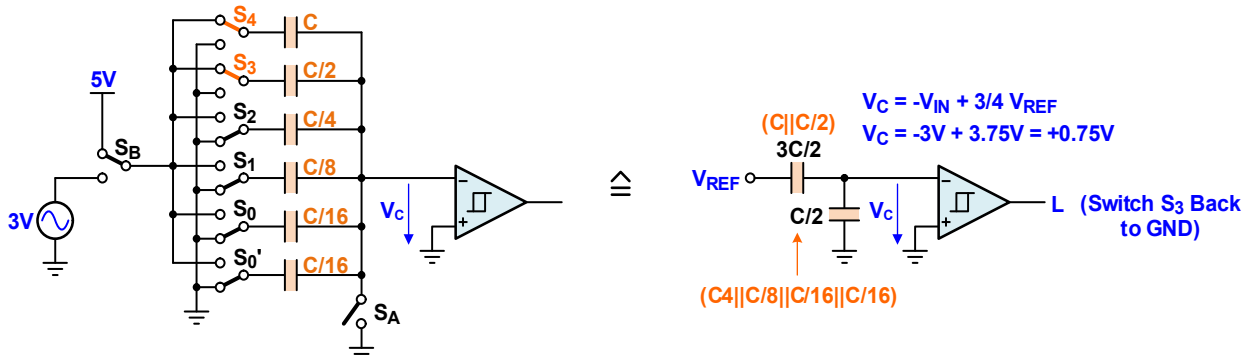

Figure 8. Bit-3: Because  $V_O = L$ , Bit 3 = 0. Therefore,  $S_3$  Must be Switched Back to GND
**Bit 3:** The second conversion step determines Bit 3 by connecting  $C/2$  to  $V_{REF}$  using  $S_3$ . The divider ratio changes to  $X = 3/4$ , causing a comparator input of  $V_C = +0.75V$ . This turns the comparator output low and sets Bit 3 to 0. It also means that  $S_3$  must be switched back to ground (Figure 8).